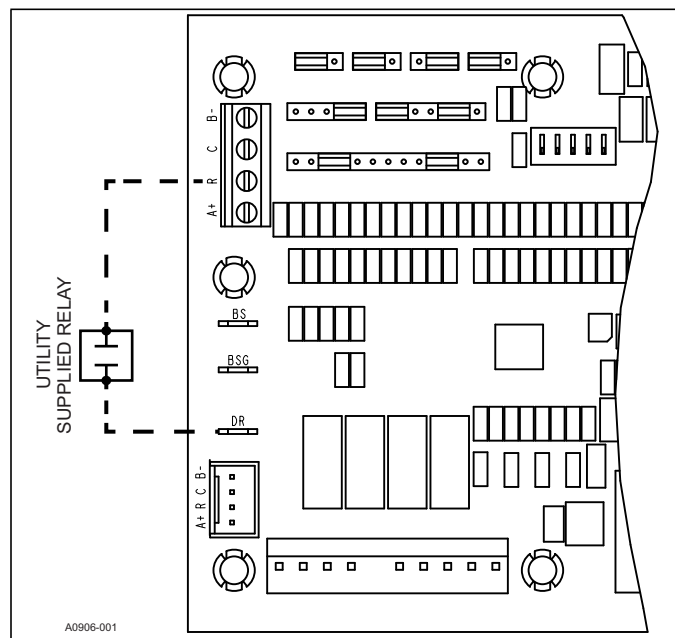

FIGURE 13: Demand Response Wiring
The outdoor control has a conventional 24VAC input (DR) for utility demand response signals. When a 24VAC signal is present on the DR input with a **communicating system**, the HX™ thermostat will adjust the indoor temperature setpoint by the installer selected setting. For further details on available settings, please refer to the HX™ thermostat installation and operation manual. With a **non-communicating system**, a 24VAC signal on the DR terminal will not allow the system to run in second stage, cooling operation only. The DR input terminal location can be found in Figure 13.